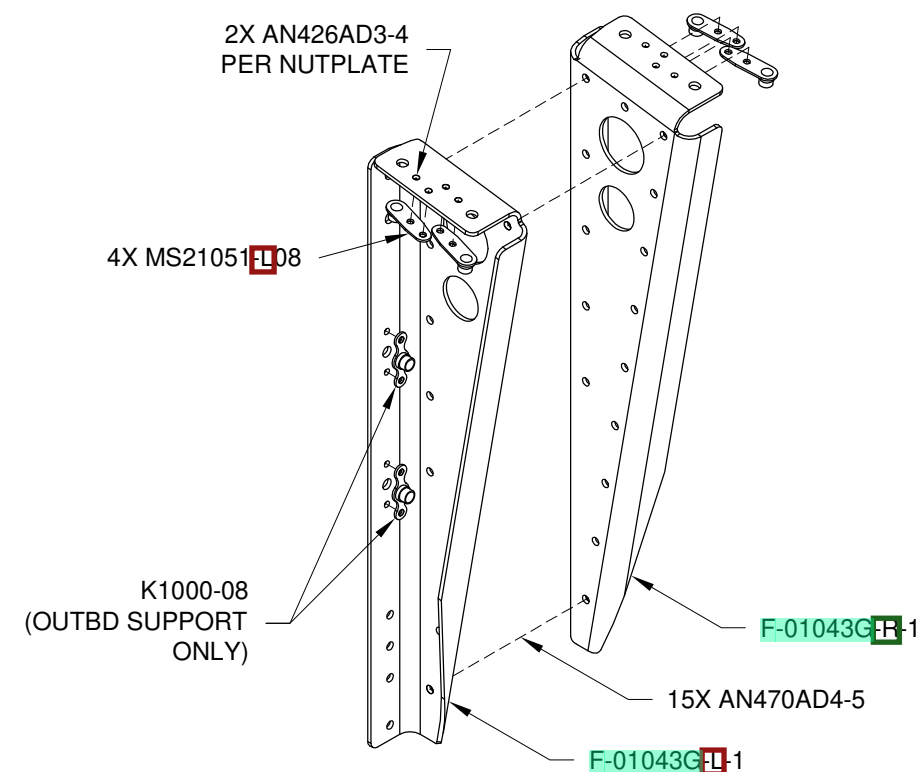

FIGURE 4: FWD SEAT RAIL SUPPORT
Step 4: For the nutplates shown in Figure 4, machine countersink the nutplate attach holes in the two left and two right **F-01043G-L** & **R** Fwd Seat Rail Supports for the head of an AN426AD3 rivet.
Step 6: Rivet the F-01043G-L-1 & F-01043G-R-1 Fwd Seat Rail Supports together as shown on Page 28-2, Figure 4 to create the Outbd Fwd Seat Rail Support - Left. Repeat this step to create the Outbd Fwd Seat Rail Support - Right.